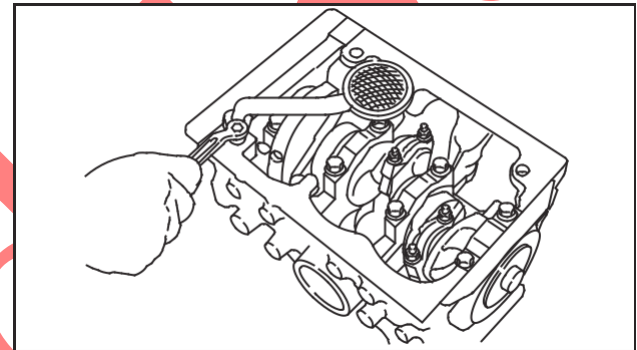

Fig. 7 – Installing Oil Pick-Up
1. Install gasket, oil pick-up tube and strainer, Fig. 7.